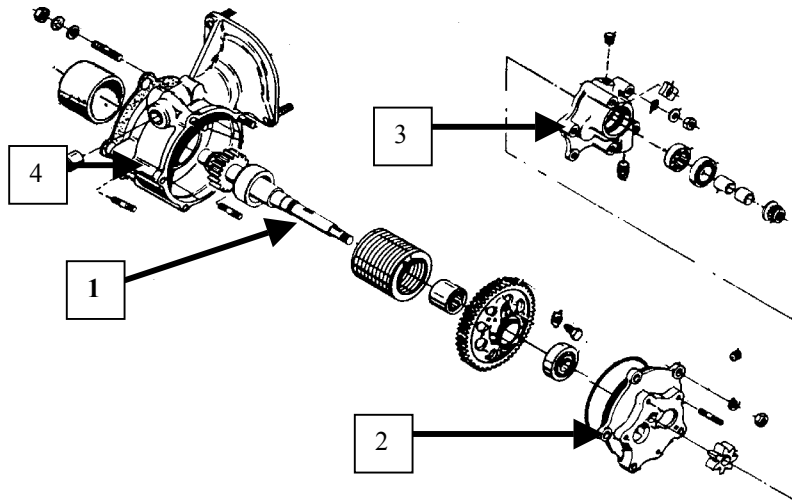

FIGURE 3
All starter adapters overhauled or repaired in the field must be assembled using the parts noted in Figure 3, or subsequent part numbers. Shaft gear P/N’s 640745, 640803, 649882 and 649866 must be removed from service and replaced with P/N 655711 or subsequent part number shaft gear. P/N 655714 (Cover- item 2 Figure 3) and P/N 655715 (Housing, Scavenge Pump- item 3 Figure3) are manufactured with alignment dowels and must be used together. Do not use either P/N 655714 or P/N 655715 with previous superseded mating parts.